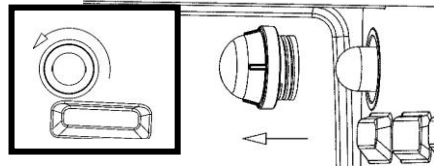

Fig 19
3. Remove (unscrew) the spent bulb (figs. 19 & 20) and replace with one of the same type (Max 15W E14 (small Edison screw) incandescent oven bulb). Handle the new one carefully and screw in firmly, taking care not to cross threads. Always use the same or lower wattage bulb. Please use low energy bulbs where possible.